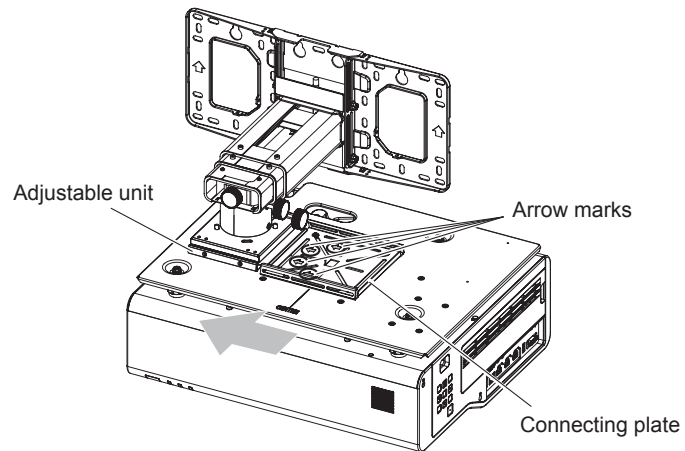

Fig.2
- 2) **With the projector attached, slide the connecting plate on the projector mount bracket into the adjustable unit of the wall mount bracket. (Fig.2)**